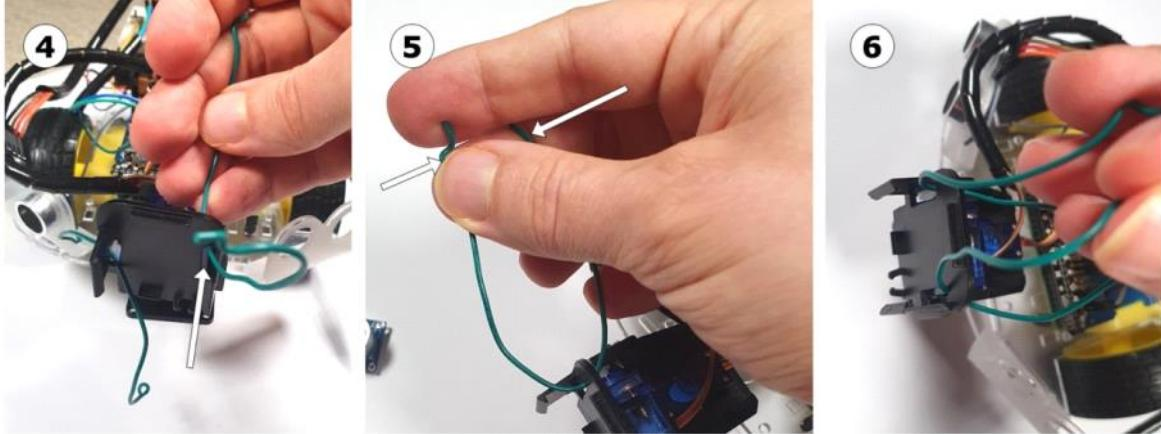

Figure 10.18 – Steps 4 to 6; putting wires in the slots
4. For each side, first push the wire through the indicated slot shown in Figure 10.18.